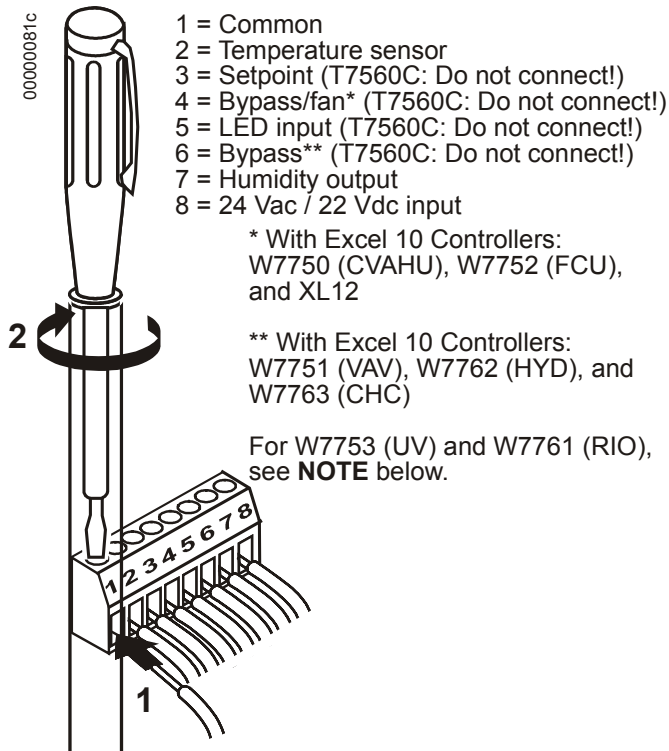

Fig. 4. Wiring of DWM
Deviation from this rule can result in improper electrical contact. See Fig. 4.
3. Verify DWM is wired according to Fig. 4.